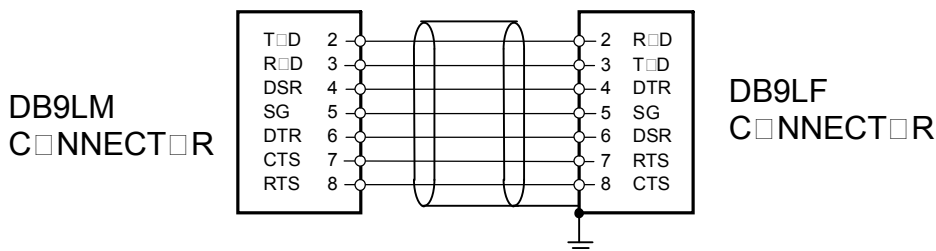

Fig.5-39
Fig.5-39 shows the connection between the HUST H6D Serial Controller and the computer (PC). When carrying out the wiring, take the following precautions